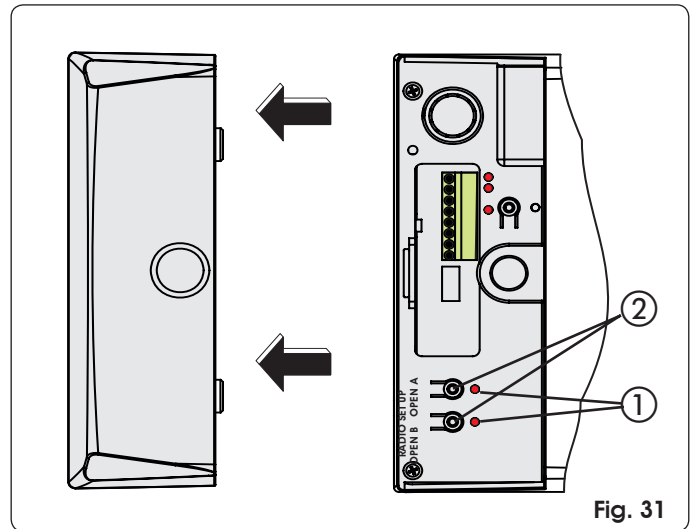

Fig. 31
- 2) To respectively memory store total or partial opening, press the OPEN A or OPEN B push-button for one second (Fig. 31 ref. ②)
- 3) The relevant LED (Fig. 31 ref ①), begins to flash for 5 sec.
- 4) To respectively memory store total or partial opening, press the OPEN A or OPEN B push-button for one second (Fig. 31 ref. ②).
- 2) To respectively memory store total or partial opening, press the OPEN A or OPEN B push-button for one second (Fig. 31 ref. ②).